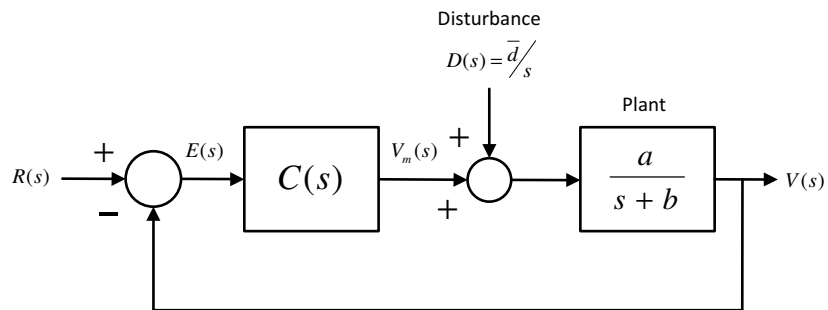

Figure 2: Block diagram of the closed-loop system
**Problem Statement:** Consider the feedback control system in Figure 2. Design the controller  $C(s)$  to meet the specifications below.
1. Referring to Figure 2, verify that the plant has type 0 (i.e. the plant has no pole in the origin). Hence, in order to meet SPEC1, you need a controller with a pole at zero. Letting